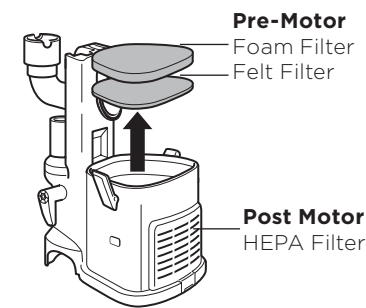

Fig. 21
- 2 Pull the 2 filters out from the top of the canister. **(Fig. 21)**